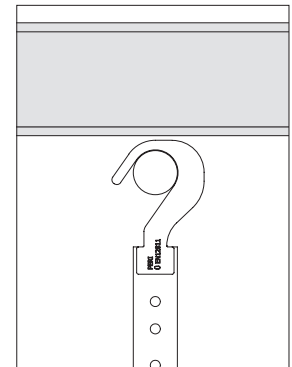

Fig. A11.01b
2. Swing the adapter suspended scaffold down vertically. (Fig. A11.01b)